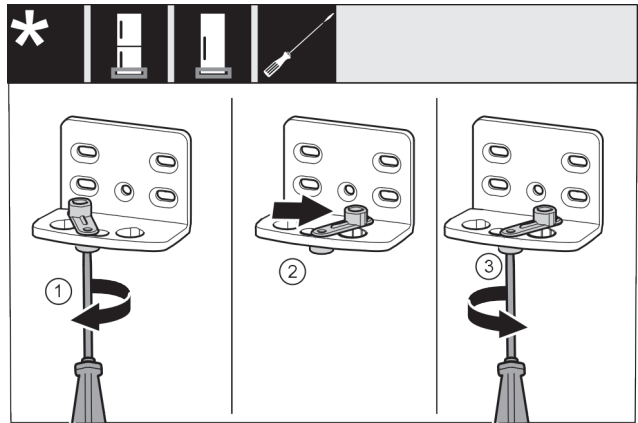

Fig. 46 *
- Use screwdriver to loosen the screw Fig. 46 (1).*
- Lift the door closing aid Fig. 46 (2) and turn 90° clockwise in the hole.*
- Tighten screw Fig. 46 (3) with screwdriver.*